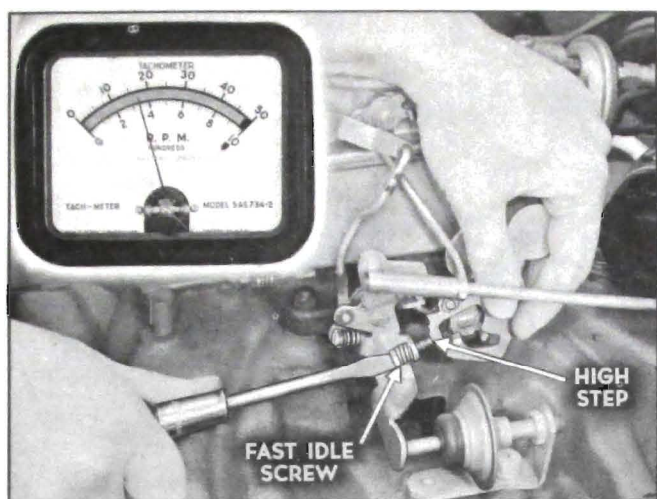

Figure 3-93—Adjusting Fast Idle
a. Push fast idle cam to full up position so that fast idle screw contacts high step of cam. See figure 3-93.